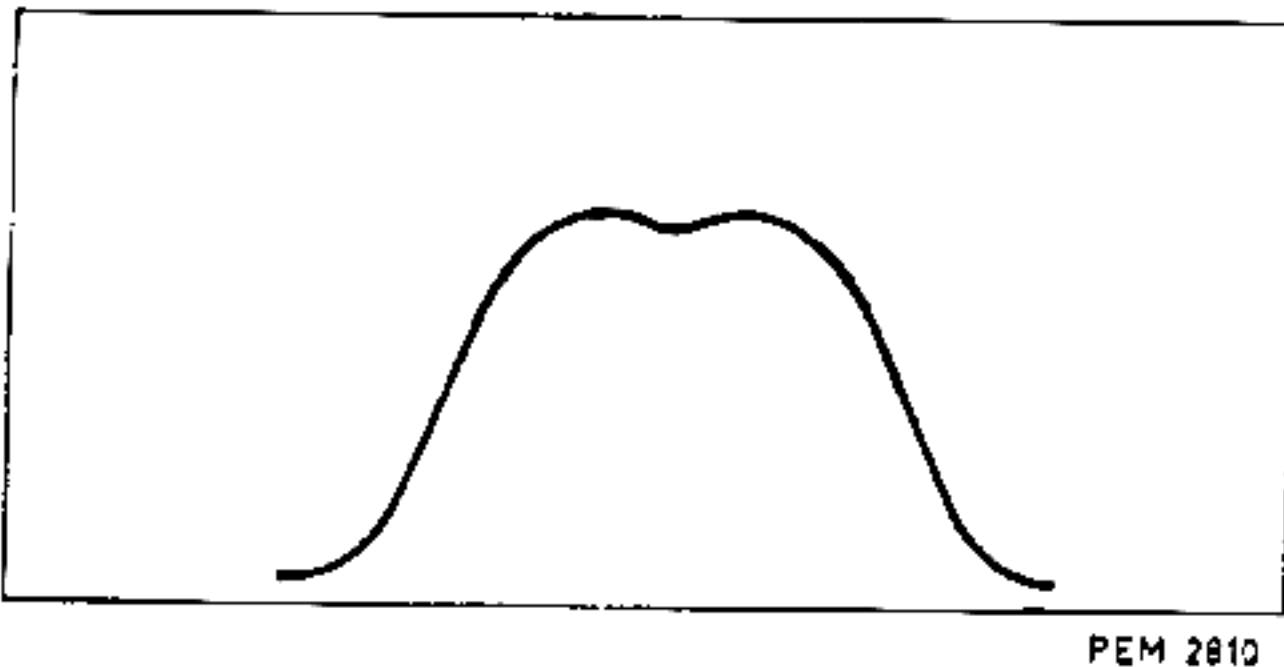

Fig. 15. I.F. curve of an A.M. receiver
4. On the screen of the oscilloscope a band-pass curve will appear of the shape shown in Fig. 15.